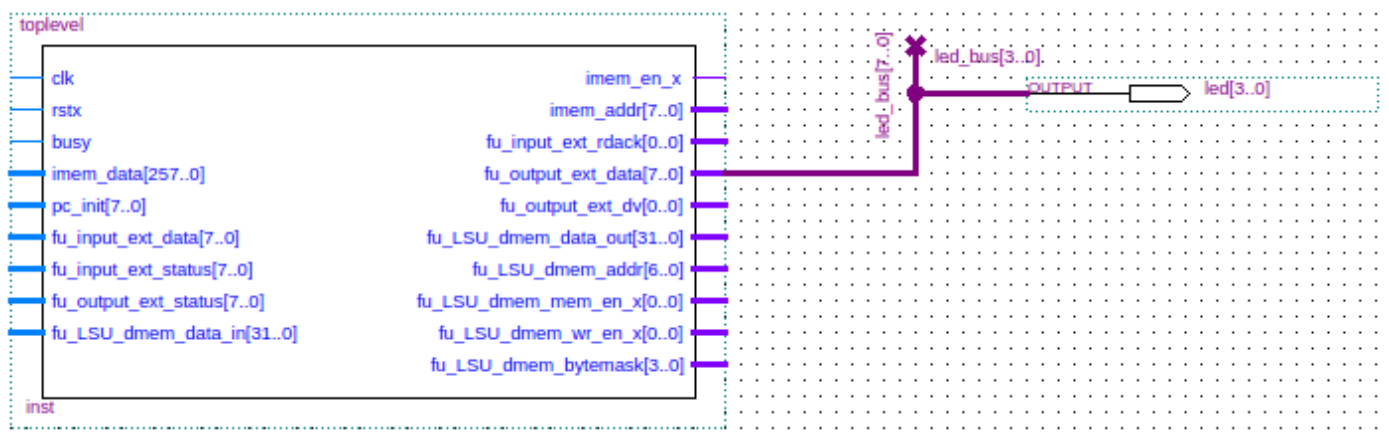

Figure 2.
26. Rename this pin as "led[3..0]" (yes, two dots) and connect it like in Figure 2. The connections can be named by right-clicking the line and selecting *properties*